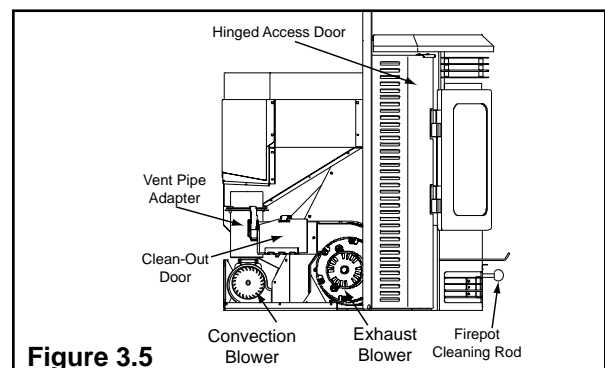

Figure 3.5
1. Open the hinged access door on the left of the insert. **Figure 3.5.**